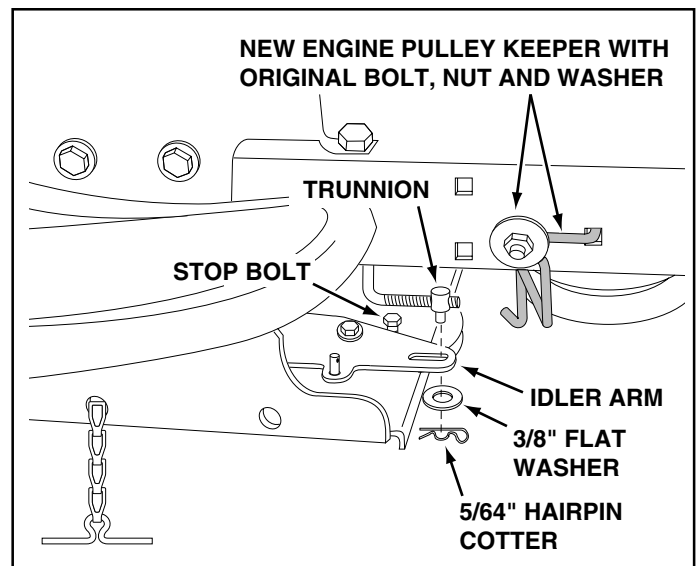

FIGURE 13 RIGHT SIDE VIEW
- Pivot the upper idler arm so that it rests against the stop bolt and is pointing toward the front as shown in figure 13. Screw the trunnion along the threads of the engagement rod until it is aligned at the front end of the idler arm slot. Attach the trunnion to the slot using the 3/8" flat washer and a 5/64" hairpin cotter. See figure 13.
- Remove the engine pulley keeper from the side of the tractor frame by removing the washer and nut that secure the keeper. Attach the new pulley keeper supplied with the snow thrower, reusing the original bolt, washer and nut. See figure 13.